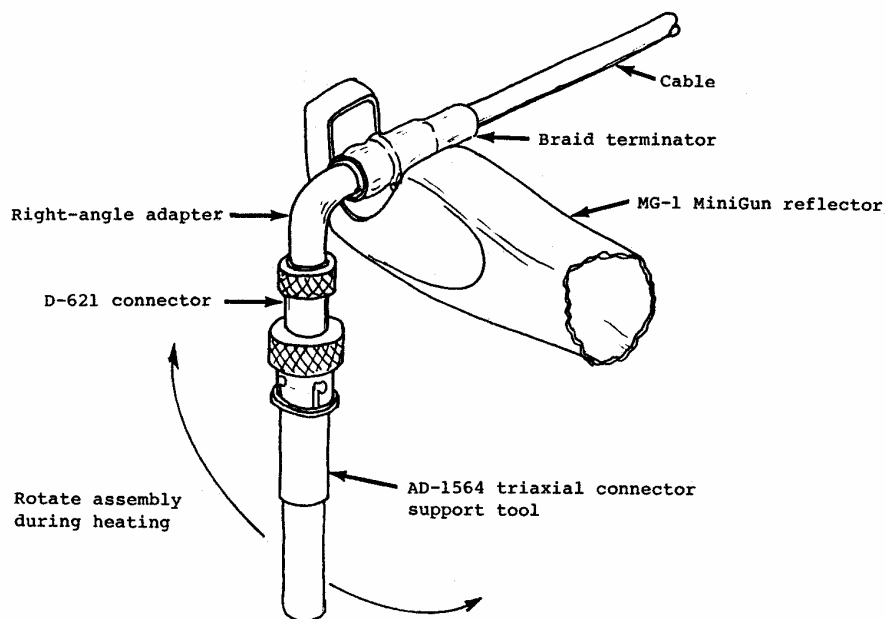

Figure 8-6. Heating the Braid Terminator
- Position the assembly in the heating tool reflector as shown in Figure 8-6, and begin heating at the end of the braid terminator next to the right-angle adapter.